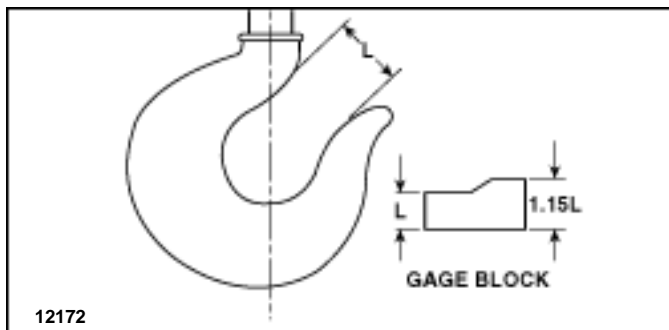

Figure 8-8. Method of Measuring Hook Throat Opening.
- (1) Check lubrication of all parts. If the thrust bearing is not equipped with a grease fitting, lubricate with a general purpose oil. Also lubricate the shank of the hook which passes through the crosshead.
- (2) Check each sheave to ensure rope groove is smooth and free from burrs, or other surface defects.
- (3) Check each sheave for freedom of rotation, replace bearings if defective.
- (4) Make certain that dowel pin holding the hook nut to the hook, is securely in position.
- (5) If hook is equipped with a safety latch or rotational lock, check to determine that they are in good operating condition.
- (6) Check throat opening of hook. (Refer to Figure 8-8.) It is recommended that upon receipt of the crane, a
measurement be made and recorded of the hook throat opening. OSHA regulations require that the hook be replaced if the throat opening exceeds 15 percent of the original opening, or if the hook is twisted more than 10 degrees from the unbent plane. A gage block, properly identified to the crane, similar to the one shown in Figure 8-8 is suggested to be made for each hook for use in these measurements.